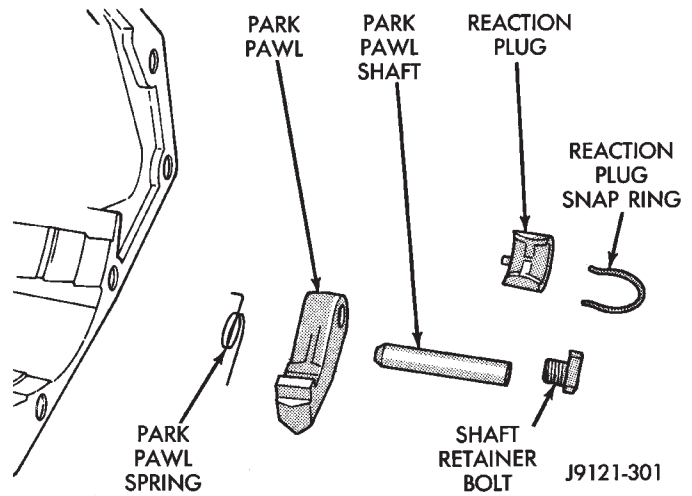

Fig. 14 Park Lock Component Removal
(14) Remove park pawl retaining bolt and reaction plug snap ring (Fig. 14). Compress snap ring only enough to remove it. Snap ring can be distorted if overcompressed.
(15) Remove park pawl shaft, park pawl, pawl spring and reaction plug (Fig. 14).